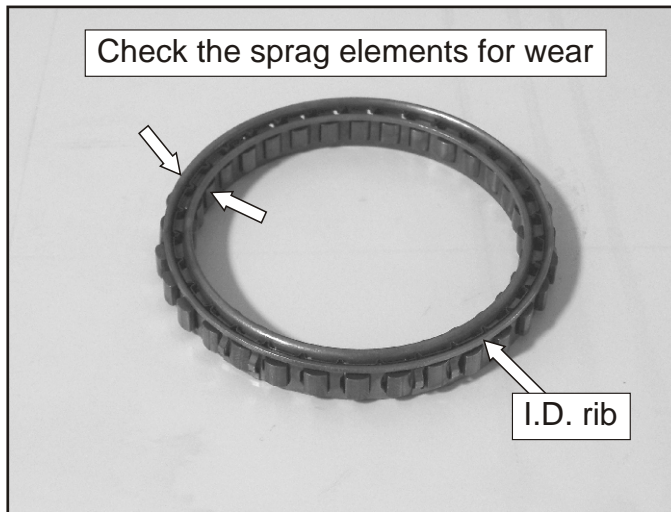
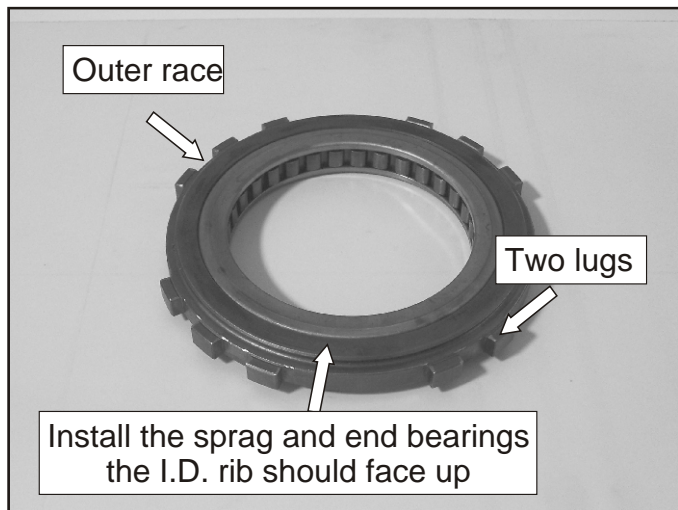

Figure 151
Figure 153
- 97. Inspect the sprag elements for wear as shown in Figure 151, and replace as necessary.
99. Install the F3 sprag and end bearings into the outer race as shown in. Refer to Figure 151 for the orientation of the I.D. rib. Ensure that the two lugs on the outer race are in the 5 o'clock position, as shown in Figure 153.